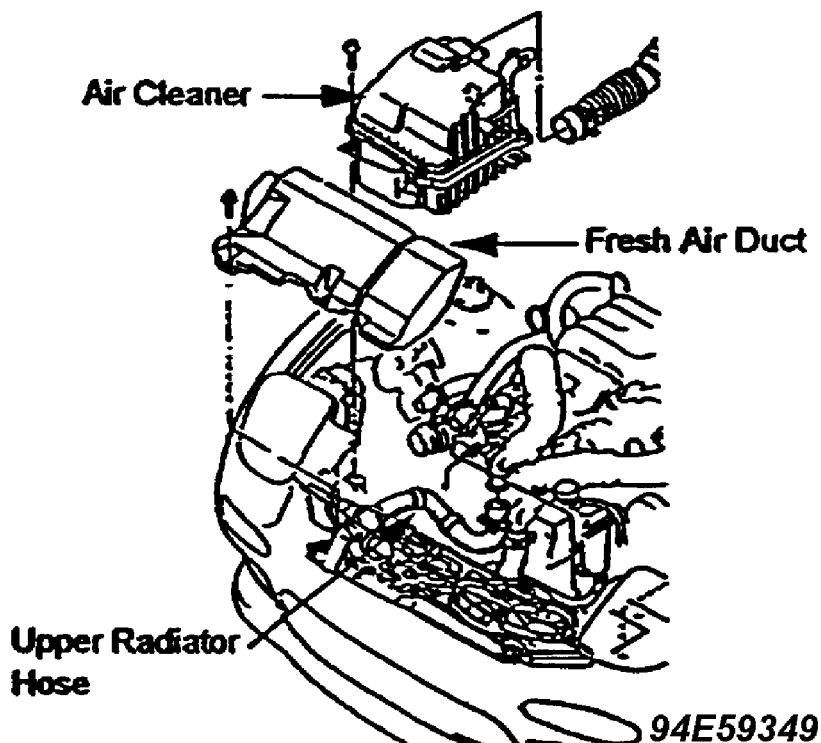

Fig. 66: Fresh Air Duct Bolts & Upper Radiator Hose
38. Remove the bolts from the fresh air duct, and remove the fresh air duct. See Fig. 66.
39. Remove the upper radiator hose. See Fig. 66.